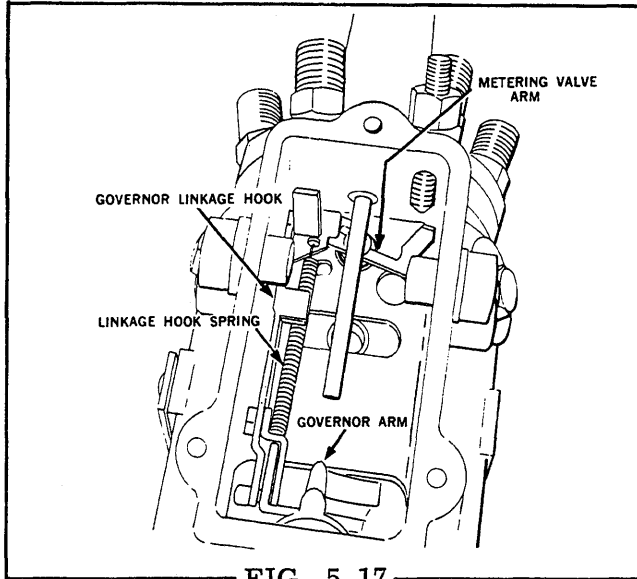

FIG. 5.17
STEP 17 Pull back the governor linkage hook, stretching the spring just enough to assemble the hook correctly to the fork on the governor arm. Position the opposite end of the hook over the pin on the metering valve arm (Fig. 5.17). Check all of the governor parts for freedom of movement.